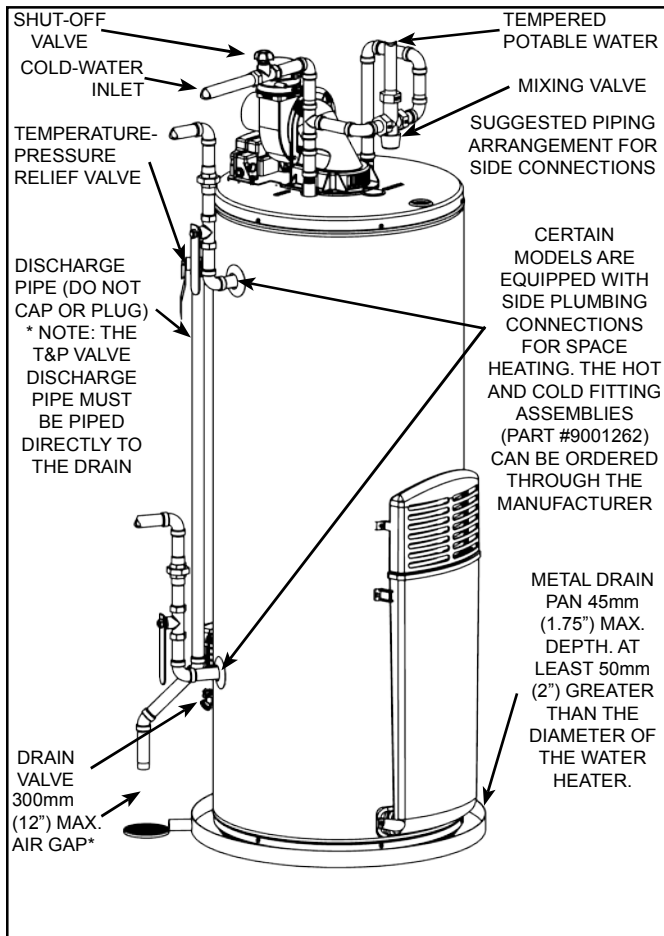
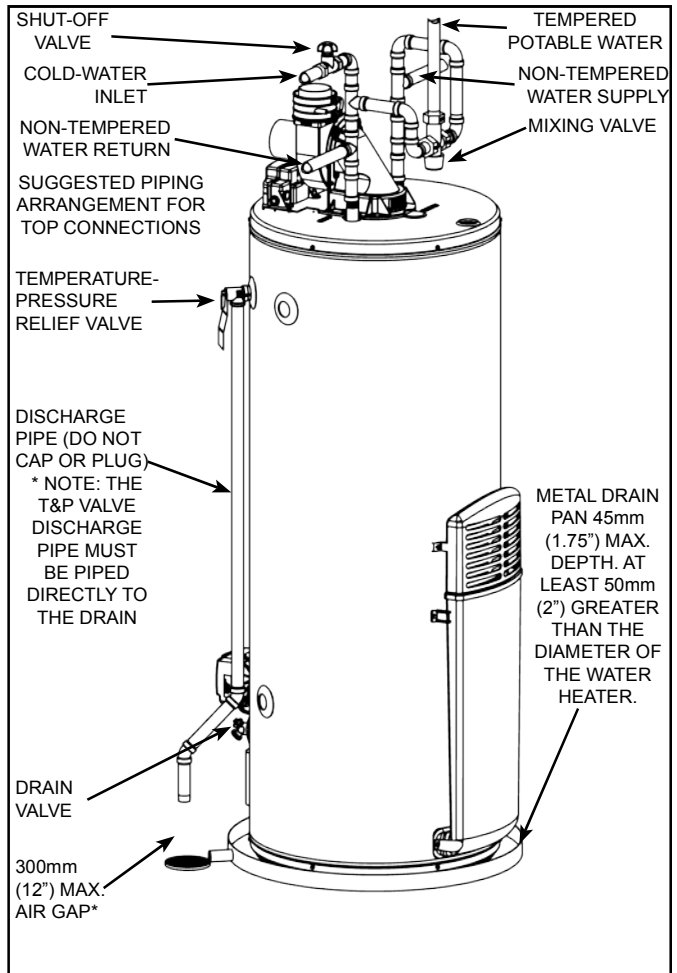

Figure 8.
Figure 9.
Models equipped with Combo Heating capabilities are shipped with the two side plumbing taps **CLOSED** (item 18 and item 20 in Figure 1 and see also Figure 8 & Figure 22). If the heater is to be operated using the side taps, these openings **must be opened** by removing the two pipe plugs installed in the heaters.
In addition to using lowest possible temperature setting that satisfies demand of application, a mixing valve should be installed at water heater (see Figure 8 & Figure 9) or at hot-water taps to further reduce system water temperature. Mixing valves are available at plumbing supply stores. Consult a Qualified Installer or Service Agency. Follow mixing valve manufacturer's instructions for installation of the valves. Before changing the factory setting on the thermostat, read the "Operating The Temperature Control System" section in this manual.